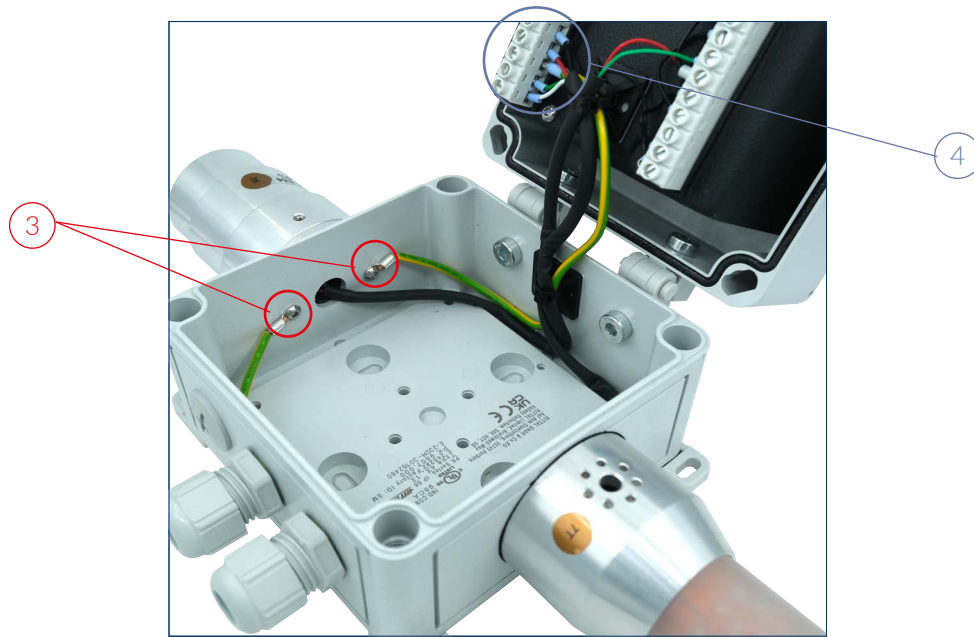

Figure 8. Replacing the ZR sensor
3. Remove the hex screws located on the inside of the Gasenz using a 2.5 mm hex-driver, as shown in Figure 8 (highlighted in red).
4. With a 3 mm screwdriver, loosen the sensor terminal screws (as highlighted in blue in Figure 8) to disconnect the sensor from the module.
9. Align the screw holes with those on the Gasenz (highlighted in red in Figure 8).